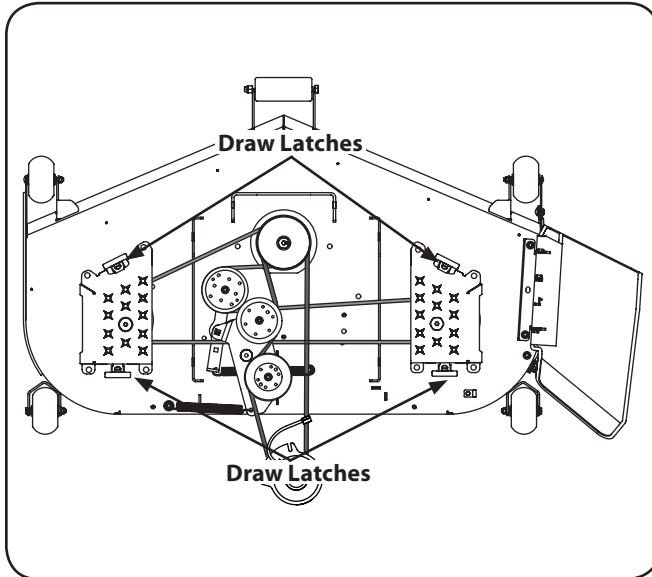
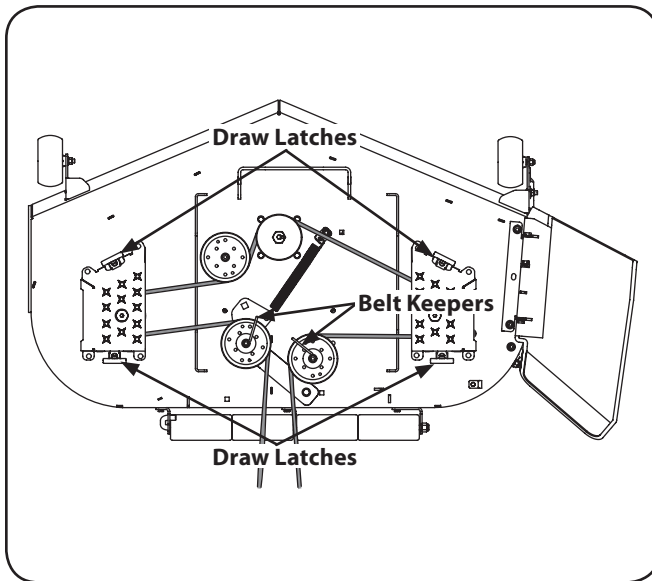

Figure 7-11
Figure 7-12
2. Pull the four draw latches up and away from the deck covers to unlatch and remove both covers. See Figure 7-11 for the Z-Force S60 and Figure 7-12 for the Z-Force S48.